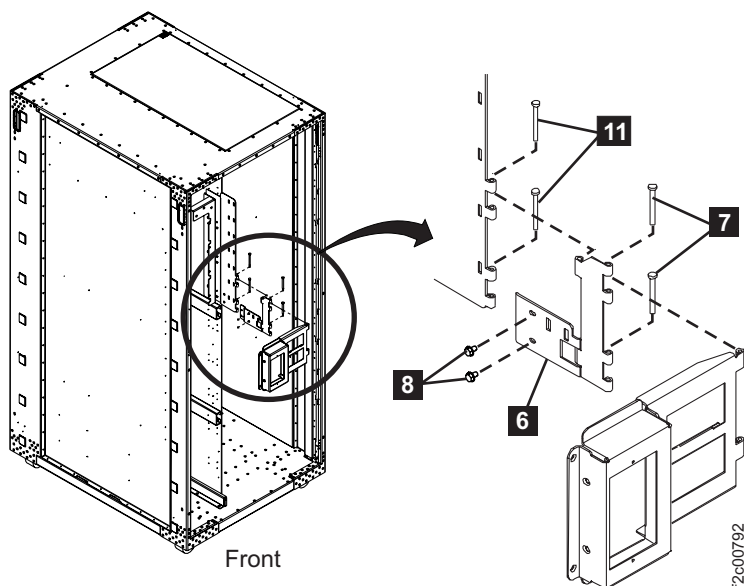

Figure 101. Earthquake resistance kit
7. Remove the operator panel pivot pins **11** from the existing bracket. See Figure 101 on page 122.